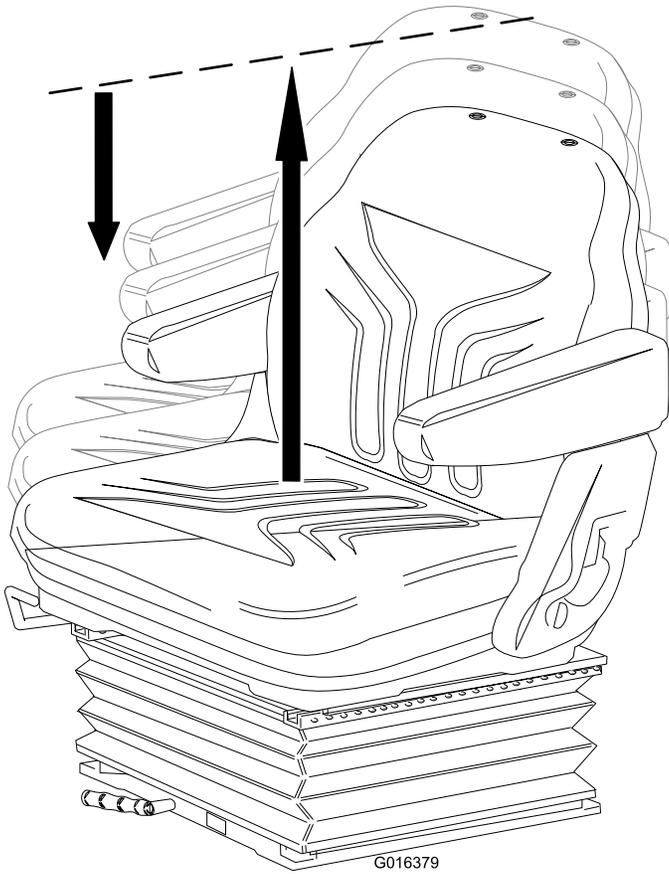

Figure 13
- **Height adjustment:** Manually lift the seat for incremental height adjustment. To lower, lift the seat beyond its highest setting, then allow it to drop to the lowest setting (Figure 13).